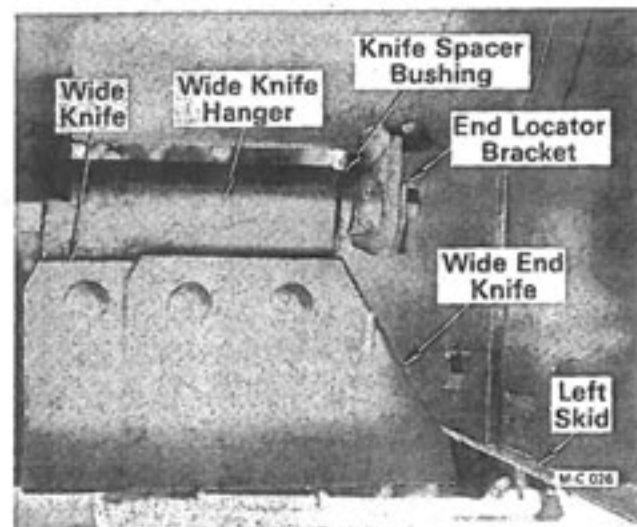

Figure 28
- B. Turn the rotor and line up the hanger bar in the center of the slot in the left side of the body, see Figure 28. Block the rotor in this position.
- C. Turn the rotor and line up the hanger bar in the center of the slot in the left and right side of the body, see Figure 28. Block the rotor in this position.
- B. Turn the rotor and line up the hanger bar in the center of the slot in the side of the body, see Figure 28. Block the rotor in this position.
- B. Remove the inner end locator bracket, see Figure 28. Turn the rotor and line up the hanger bar in the $1\frac{1}{4}$ inch hole in the front of the Shredder center plate. Block the rotor in this position.
- B. The end knives must be opposite each other at each end of the rotor. The wide end of the knife faces the outside, see Figure 28.
- C. A knife spacer bushing goes between each end locator bracket and wide knife hanger, see Figure 28.